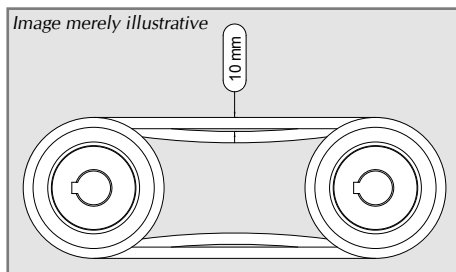

Fig. 4
- ✓ With the time of use of the Crusher, it can cause a greater slack in the belts, losing productivity and affecting the operator's safety. If this happens, an adjustment should be made to the clearance in the belts. This clearance should be  $\pm 10$  mm, as shown in Figure 4, and should always be checked before each start of work.